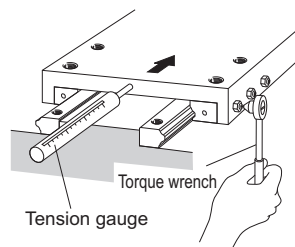

Fig.24
- (5) Secure each LM block by gradually tightening the two LM block mounting bolts, which have temporarily been fastened, while sliding the table. (Fig.24)